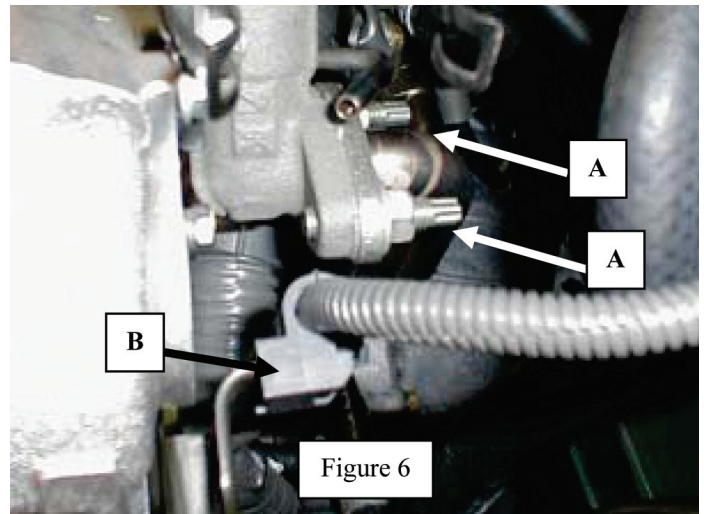

Figure 6
13. Disconnect EGR feed tube at EGR valve. See "A" arrows in Figure 6.
15. Remove wire harness bracket from backside of intake chamber. See arrow "B" in Figure 6. Remove bracket from wire harness.